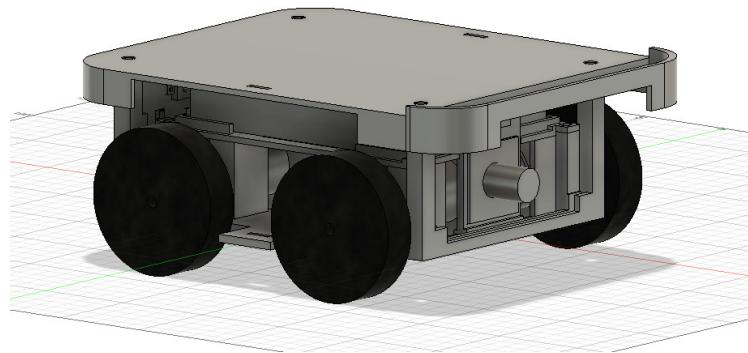

Figure 5: CAD design of the upper panel of the new chassis with added components
- Prototyping a design for the new, rounded LED bar (see all of today's progress in Fig. 5)
As seen in Fig. 5 the basic, already improved design is finished so far, but many components and mechanisms need to be added, such as:
This design with only two victims in a row allows us to fit the system above the existing upper panel (see Fig. 5). To finally design it in CAD, however, I need to design the gripper arm first to know its degrees of freedom in sorting the victims into different storage areas.